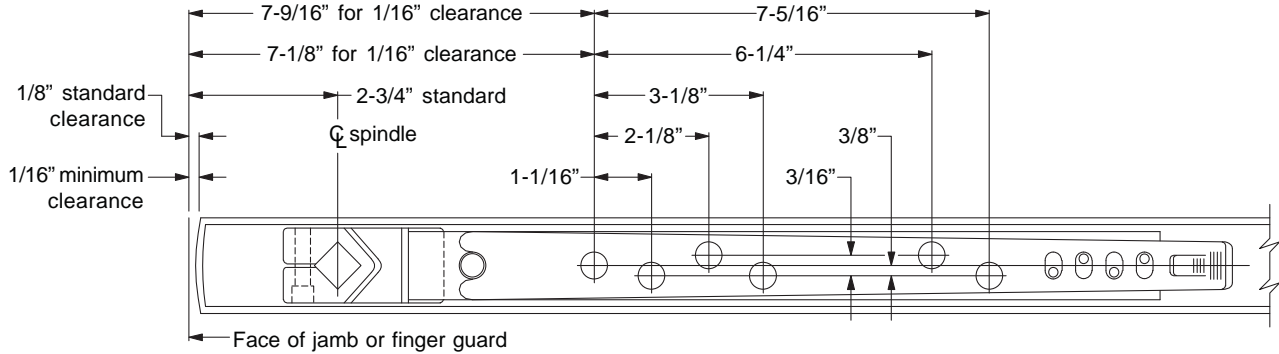

Figure 11-1
11.1. Prepare door for arm (Figure 11-1).